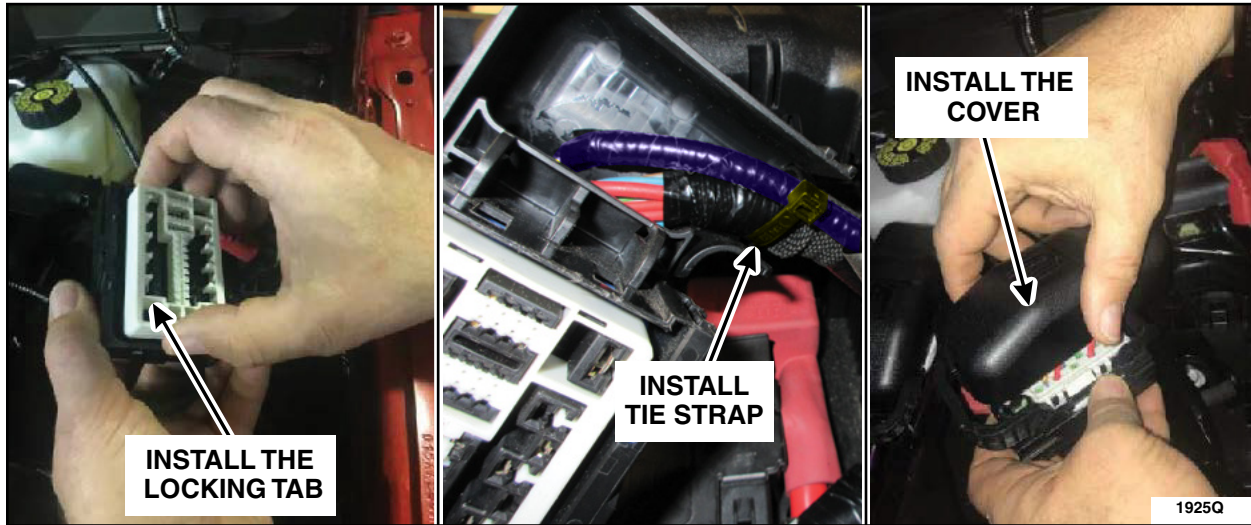

FIGURE 17
18. Install the locking tab, tie strap and connector cover. See Figure 17.